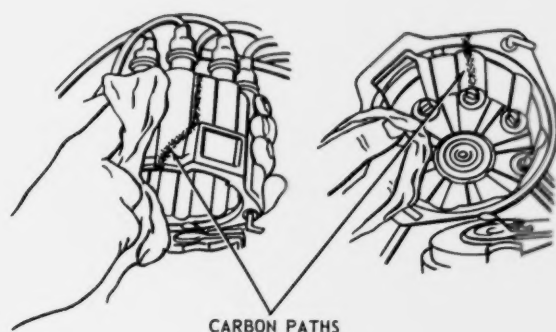

Fig. 55—Carbon Paths On Distributor Caps
2. Remove cap and wipe interior clean with a dry cloth. Dust, moisture or oil deposits must be removed. If carbon paths are present, (Fig. 55) the cap must be replaced. These paths are caused by electricity flowing between terminals or between terminals and a ground. Accumulation of dirt and moisture cause these paths to form. Once the path is formed, it will continue to conduct current and eventually burn through the cap.